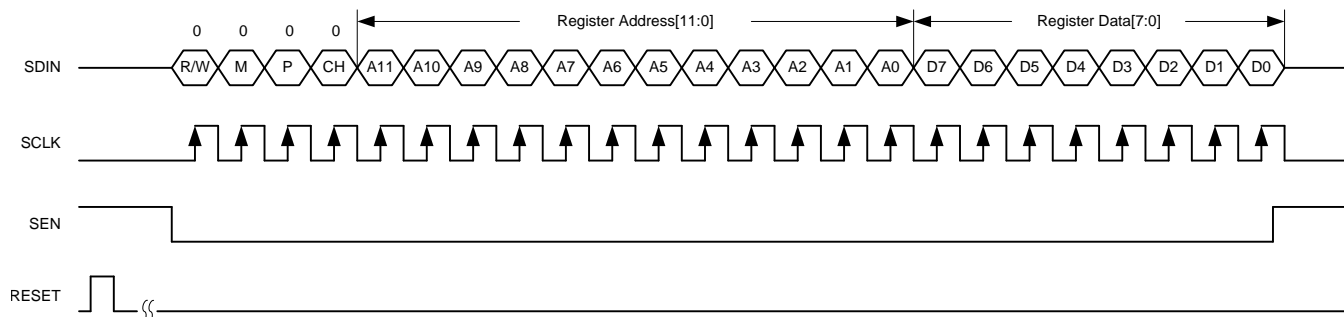

Figure 73. Serial Register Write Timing Diagram
3. Write the register content as shown in Figure 73. When a page is selected, multiple writes into the same page can be done.